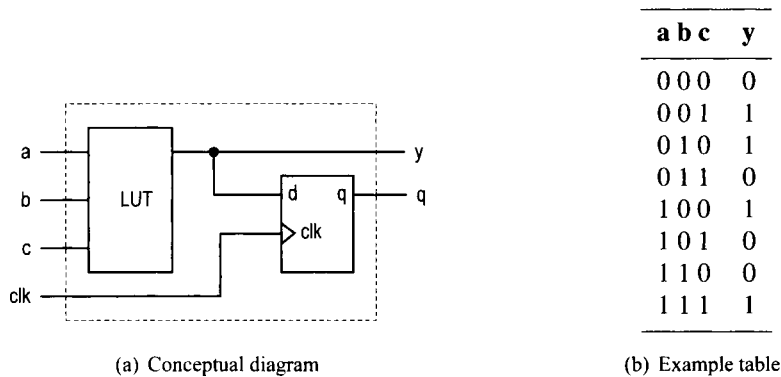

Figure 2.2 Three-input LUT-based logic cell.
LUT-based logic cell A logic cell usually contains a small configurable combinational circuit with a D-type flip-flop (D FF). The most common method to implement a configurable combinational circuit is a *look-up table* (LUT). An n -input LUT can be considered as a small 2^n -by-1 memory. By properly writing the memory content, we can use an LUT to implement any n -input combinational function. The conceptual diagram of a three-input LUT-based logic cell is shown in Figure 2.2(a). An example of three-input LUT implementation of $a \oplus b \oplus c$ is shown in Figure 2.2(b). Note that the output of the LUT
Logic cell, slice, and CLB The most basic element of the Spartan-3 device is a *logic cell* (LC), which contains a four-input LUT and a D FF, similar to that in Figure 2.2. In addition, a logic cell contains a carry circuit, which is used to implement arithmetic functions, and a multiplexing circuit, which is used to implement wide multiplexers. The LUT can also be configured as a 16-by-1 static random access memory (SRAM) or a 16-bit shift register.